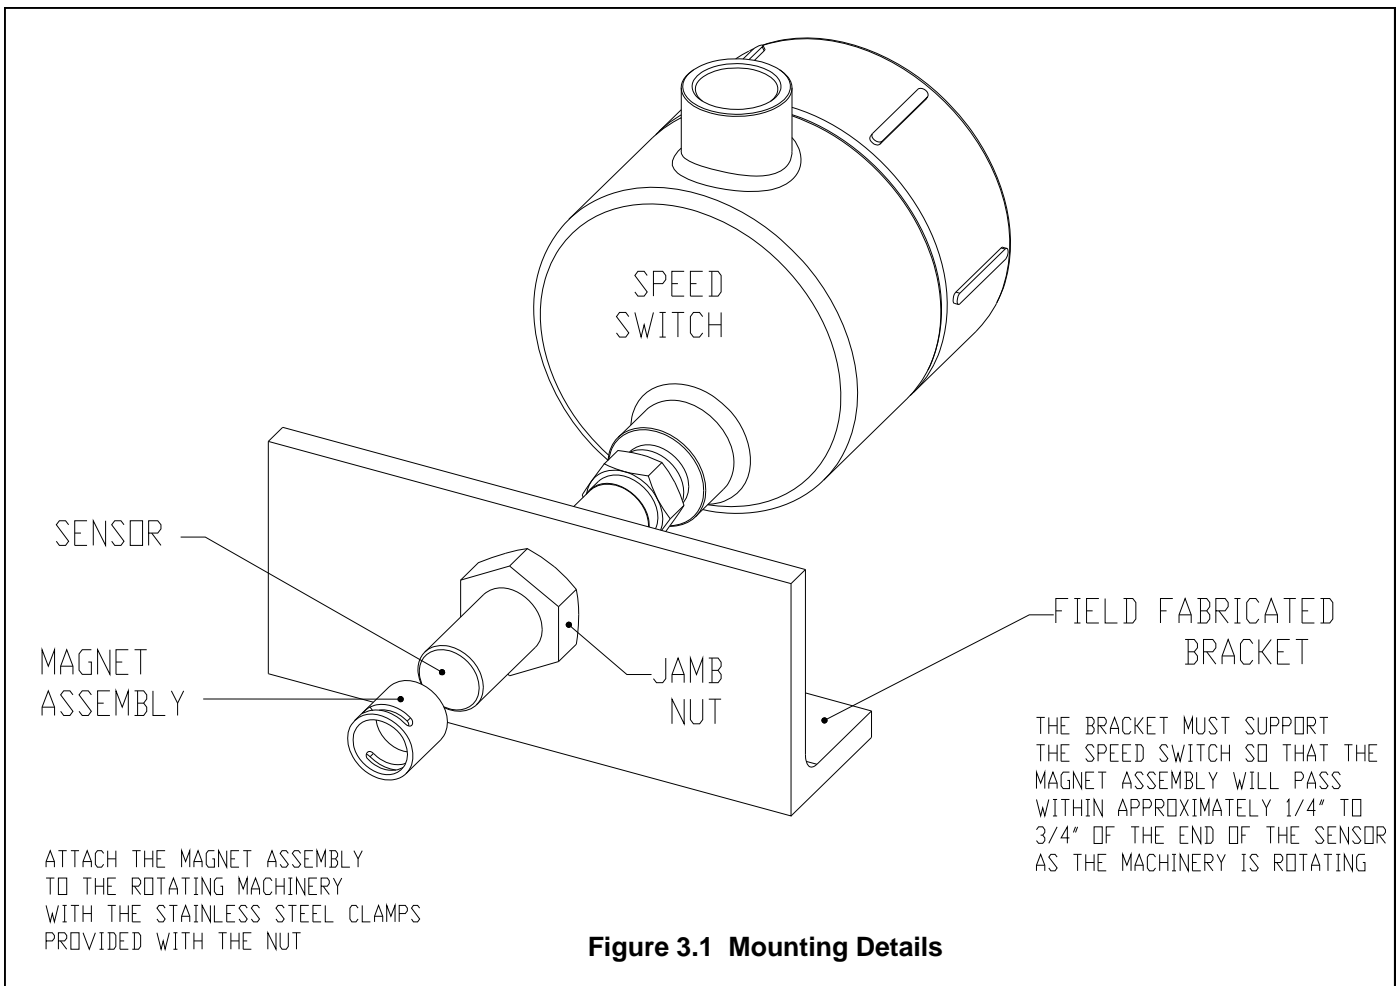

Figure 3.1 Mounting Details
- 3.3 Fabricate a sturdy bracket to hold the speed switch in such a position that the magnet will pass within $\frac{1}{4}$ " to $\frac{3}{4}$ " of the end of the probe. See Figure 3.1 showing a typical field fabricated bracket mounting arrangement.